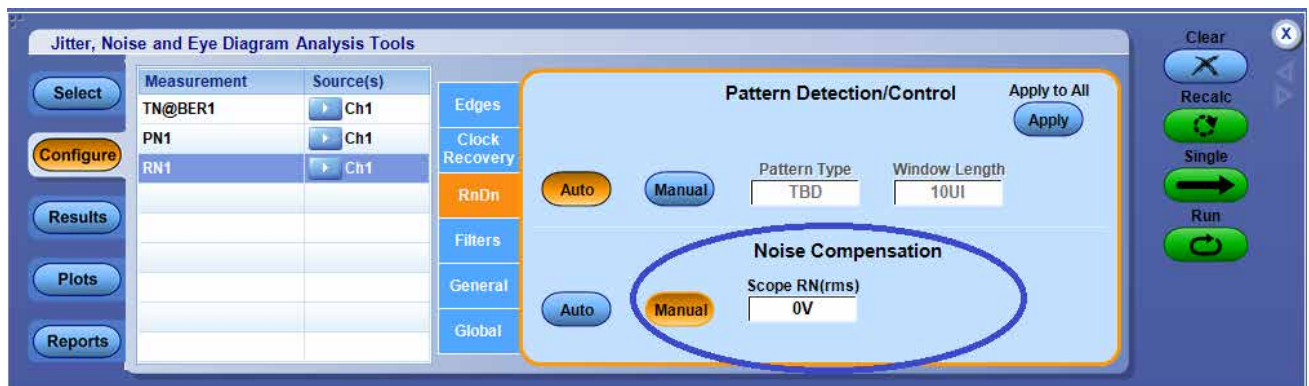
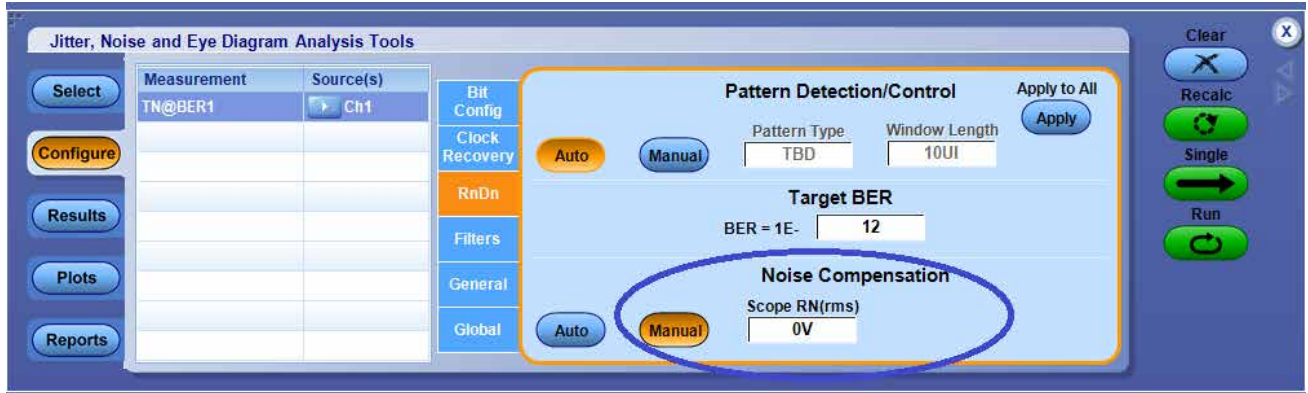

Figure 20: Noise Compensation for RN measurement in the configuration panel DPOJET
Figure 21: Noise Compensation for TN@BER measurement in the configuration panel DPOJET
10. Note down the Scope RN value from the **Scope Noise Characterization** application. Go to DPOJET measurement configuration with the RnDn tab and enter this into the **Noise Compensation** field. Refer to Figure 20 on page 25 and Figure 21 on page 26.